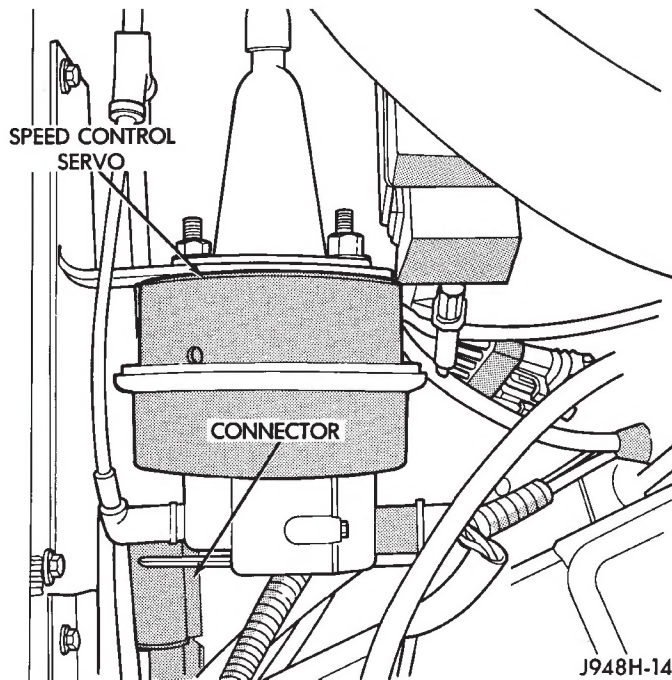

Fig. 4 Speed Control Servo - LHD
- Connect the negative lead of a voltmeter to a good chassis ground near the servo. Unplug the 4-way connector going to the servo (Fig. 4 or 5). Push the speed control switch to the ON position. Check for battery voltage at servo harness connector cavity